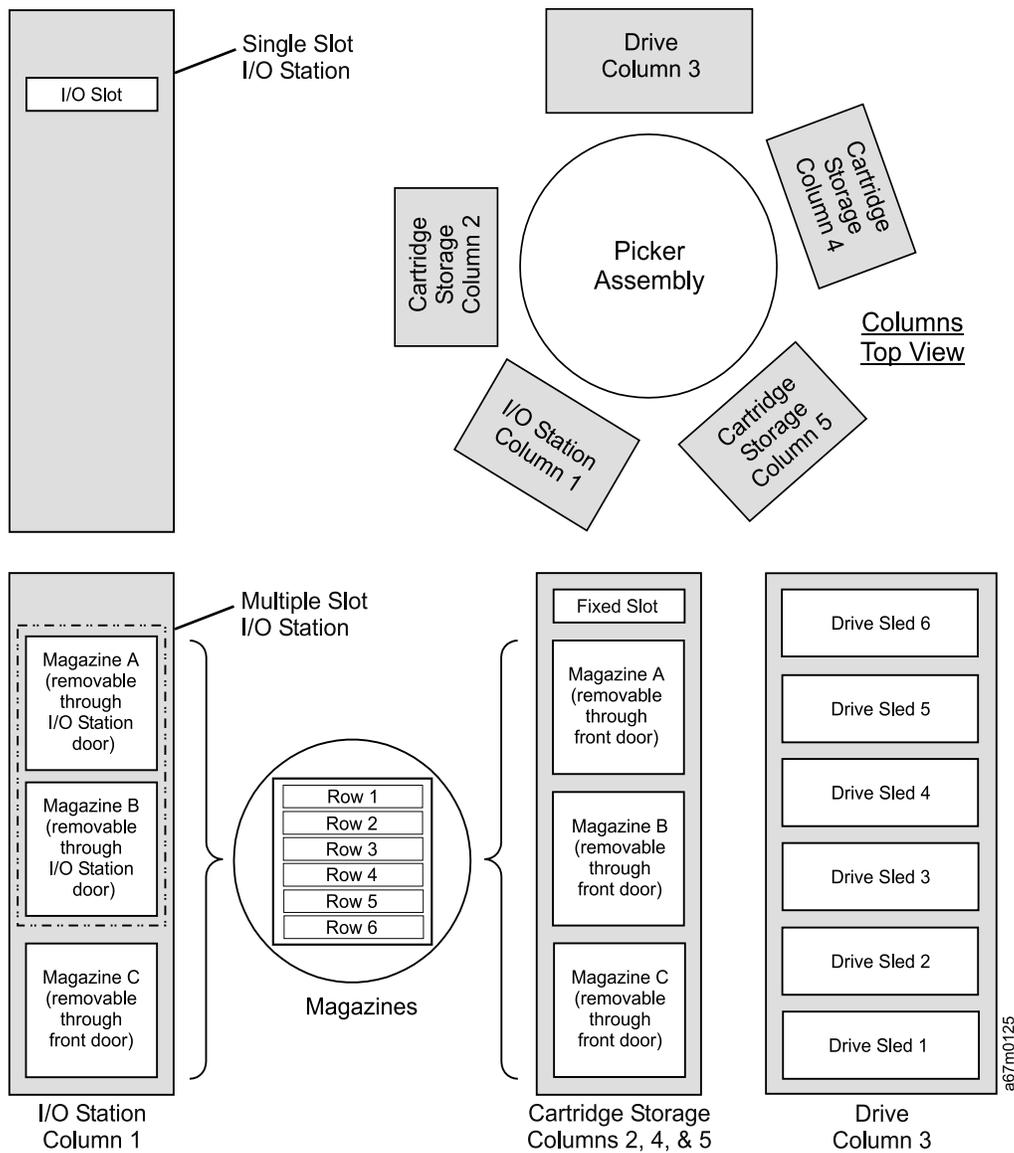

Figure 1-6. Storage Column Configurations and Coordinate system
- | The I/O station and cartridge storage columns can have storage slot number designations. Each cartridge column has three magazines containing six storage slots. The magazines within each column are designated A to C from top to bottom. The slots within each magazine are numbered 1 to 6 from top to bottom. The drives within the drive column are designated 1 to 6 from bottom to top (see Figure 1-6).